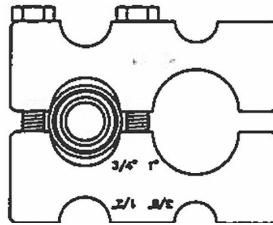

Figure 3
- Position the tool over the uncrimped ring, making sure the ring is fully covered by the tool, and tighten the bolts by hand until the corners of the crimp cavity contact the ring. (fig. 3)